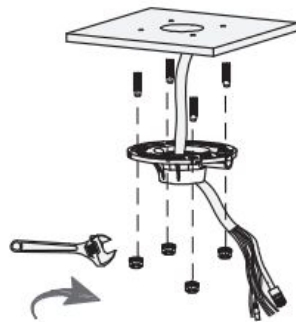

Figure 2-5
Step 1 Install the base plate for the ceiling mount. Thread the end cables through. See Figure 2-5.